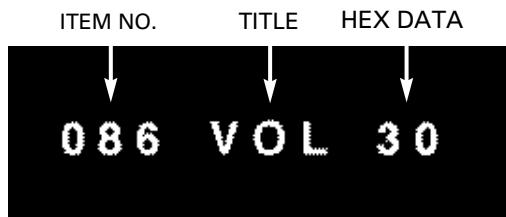

Figure 1. Service Menu Display
- While pressing the Volume (→) button on the television, reconnect the AC power supply. The Service Menu will now appear. The remote can now be used to make adjustments. See Figure 1 below.